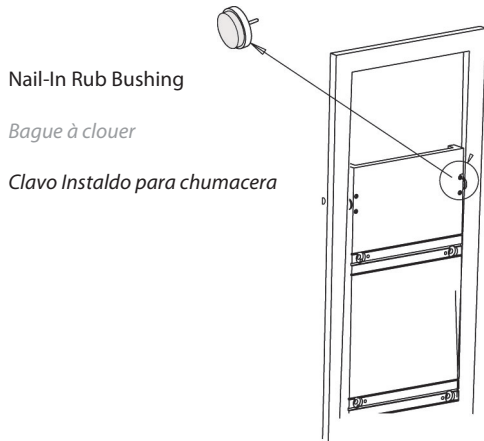

Fig 2 / l'illustration 2 / Figura número 2
4) After you have the unit installed the bushings will need to be adjusted out until the felt of the bushing "JUST TOUCHES" to take away the side to side play to your preference. "You may need to use the supplied wrench" (See Fig 2). (NOTE: Be careful not to get this too tight against the pantry rail).
1) For installation in 1-5/8" Face Frame center the Nail-In Bushing at a height that will put the rub-bushing in the center of the rail. (See figure 2) Pre-drill a 1/16" diameter pilot hole 1/4" deep.